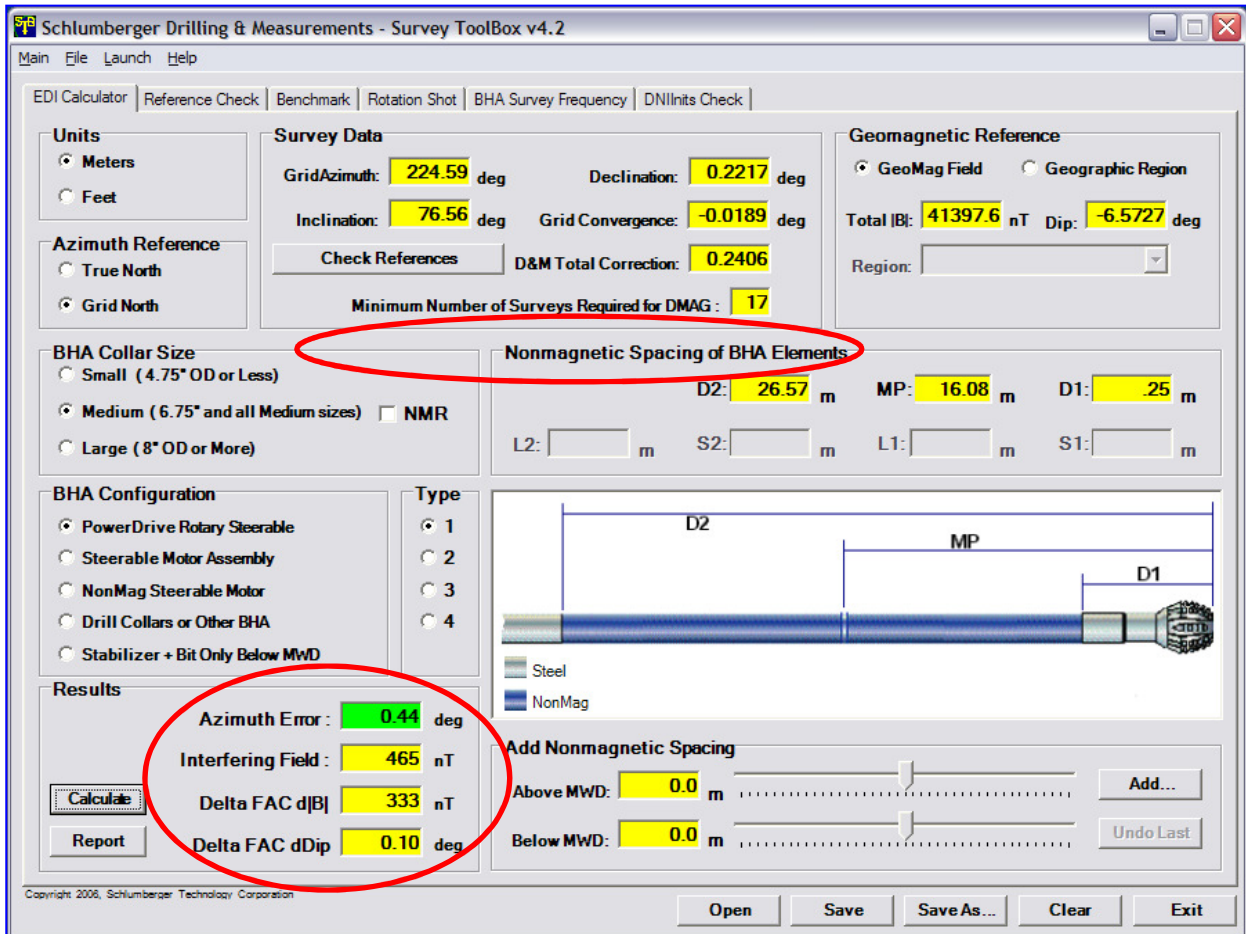

Figure 67 Survey tool Box user interface
- *BHA type:* Includes the magnetic and NMDC components in the BHA. There are 4 types of BHA. A schematic of the BHA type 1 is illustrated in figure 67.
- *BHA Configuration*: This includes the type of Drill string components; some have more metal and create more interference than others. The example in Figure 67 has a Powerdrive in the BHA.